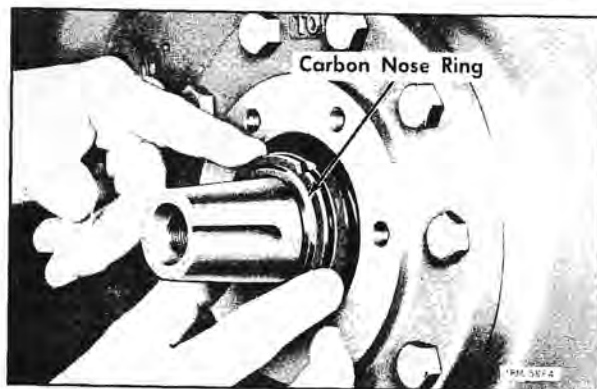

Figure 80—Installing Seal Carbon Nose Ring
7. Wet face of nose ring with clean compressor oil, then place ring over shaft end and into engagement with notches of Neoprene ring retainer (fig. 80).